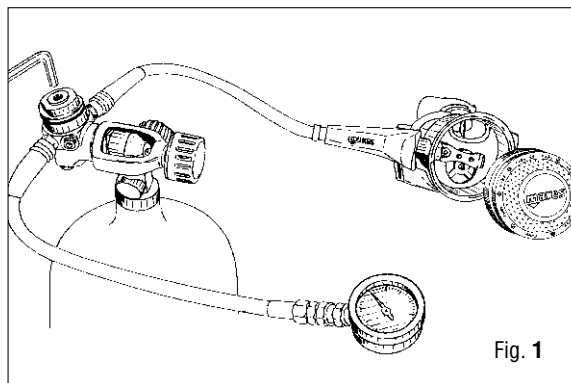

Fig. 1
ADJUSTMENT AND CHECKING THE INTERMEDIATE PRESSURE (Fig. 1)
5. Read the first stage intermediate pressure on the gauge, and as a function of this value proceed as follows (Fig. 1):
a) If the calibration value is **greater** than the specified intermediate pressure (see table), use key (B-13) to slightly back off adjusting nut (16) until the required value is obtained.
5. Read the first stage calibration value on the pressure gauge, and as a function of this value proceed as follows (Fig. 1):